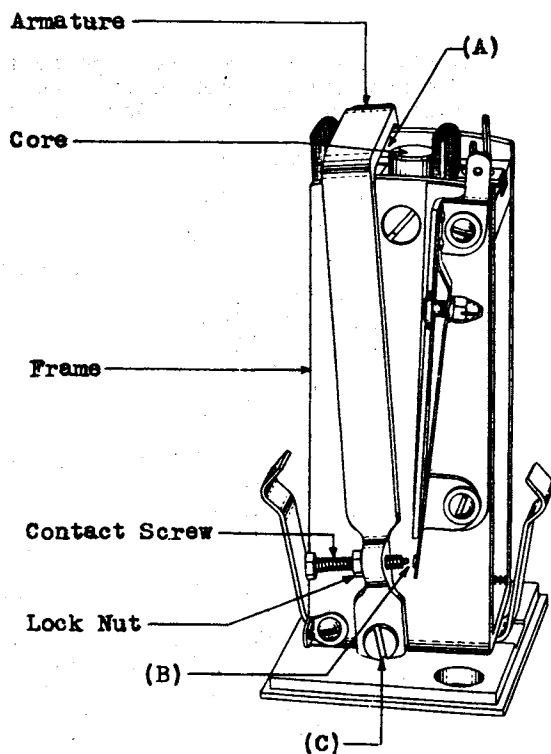

Fig. 3
- 2.08 Armature Movement - Fig. 3 (C) - The armature shall move freely in its bearings. Gauge by feel.
- 2.09 Armature Position - Fig. 3 (A) - The front edge of the armature shall be back of the adjacent side of the core when the armature is in the unoperated position. Gauge by eye.
- 2.11 Contact Separation - Fig. 3 (B) - The separation between the front contact spring and the contact screw when the relay is unoperated shall be approximately .015". Gauge by eye.